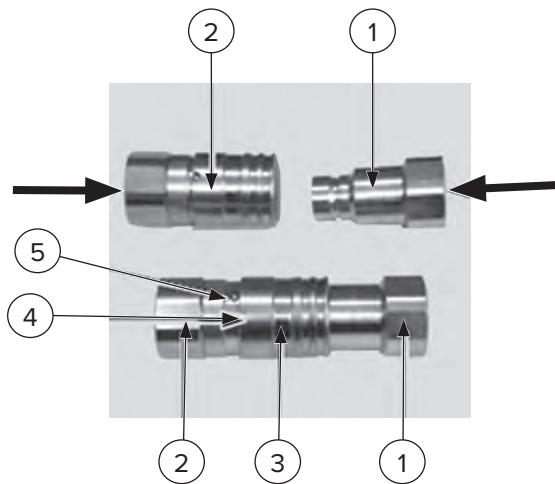

Figure 5
1. Push the male section [Figure 5, Item 1] into the female section [Item 2] until it clicks into place in the ring nut [Item 3].
**NOTE:** Figure 5 shows flat-faced quick couplings with a snap-fastening safety ring nut.